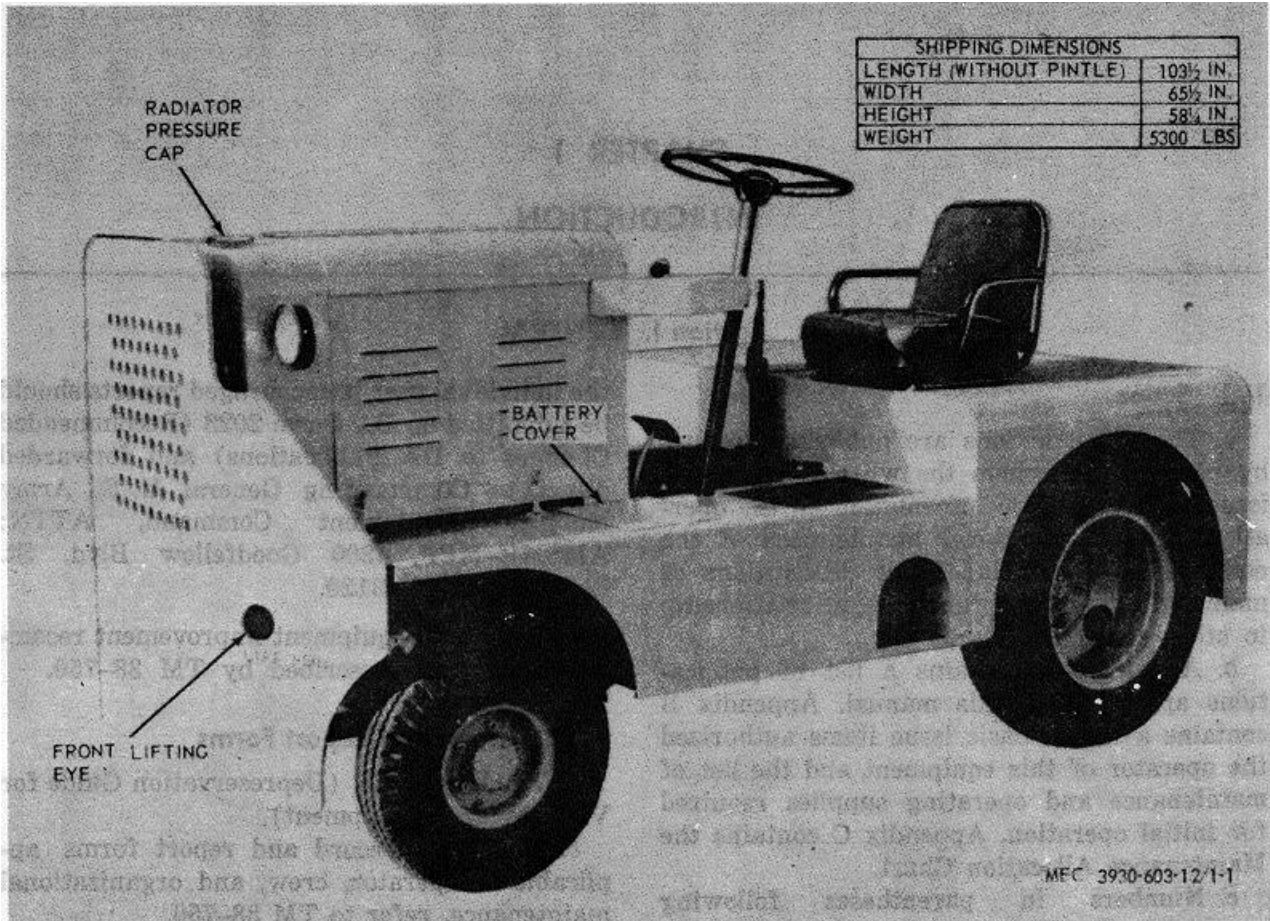

Figure 1-1. Warehouse tractor, left front three-quarter view.
a. The Army Model MHE-201 wheeled warehouse tractor is a conventional automotive type vehicle (figs. 1-1 and 1-2). The tractor is powered by a six cylinder internal combustion gasoline engine. Power is transmitted to the dual rear wheels through a three speed, automatic transmission with torque converter, a propeller shaft, drop gear case, and rear axle assembly. Hydraulic breaks are provided on rear wheels and are actuated by a foot pedal.